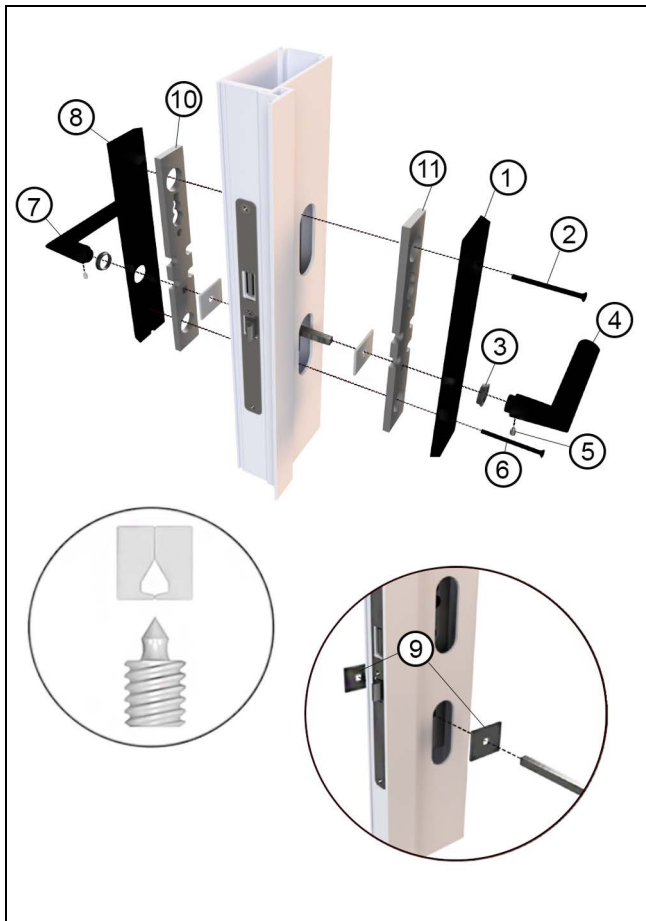

Figure 6
3. Position the two spindle halves relative to the handle set screw (see Figure 6). Insert nylon lever bushing and spindle into the exterior handle and tighten the set screw. Now place spindle through the hole in the door stile, making sure the handle stays in the horizontal position.